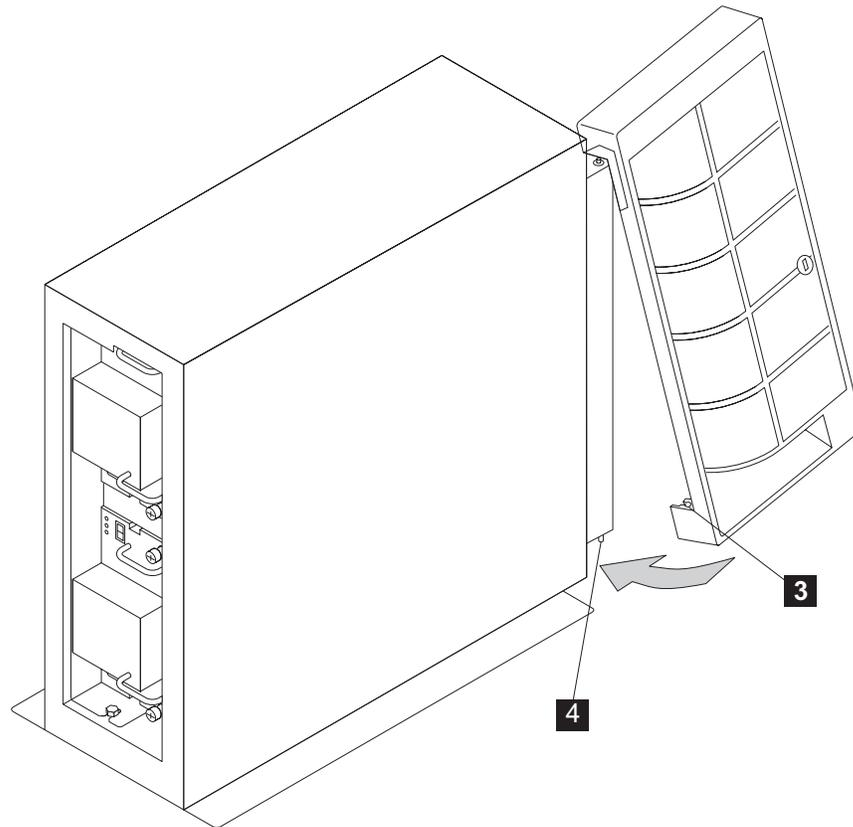

Figure 16. Installing the cover, part 2
3. Push the bottom of the cover in, so that the lower cover hinge **3** snaps onto the lower chassis hinge pin **4**, as Figure 16 shows.